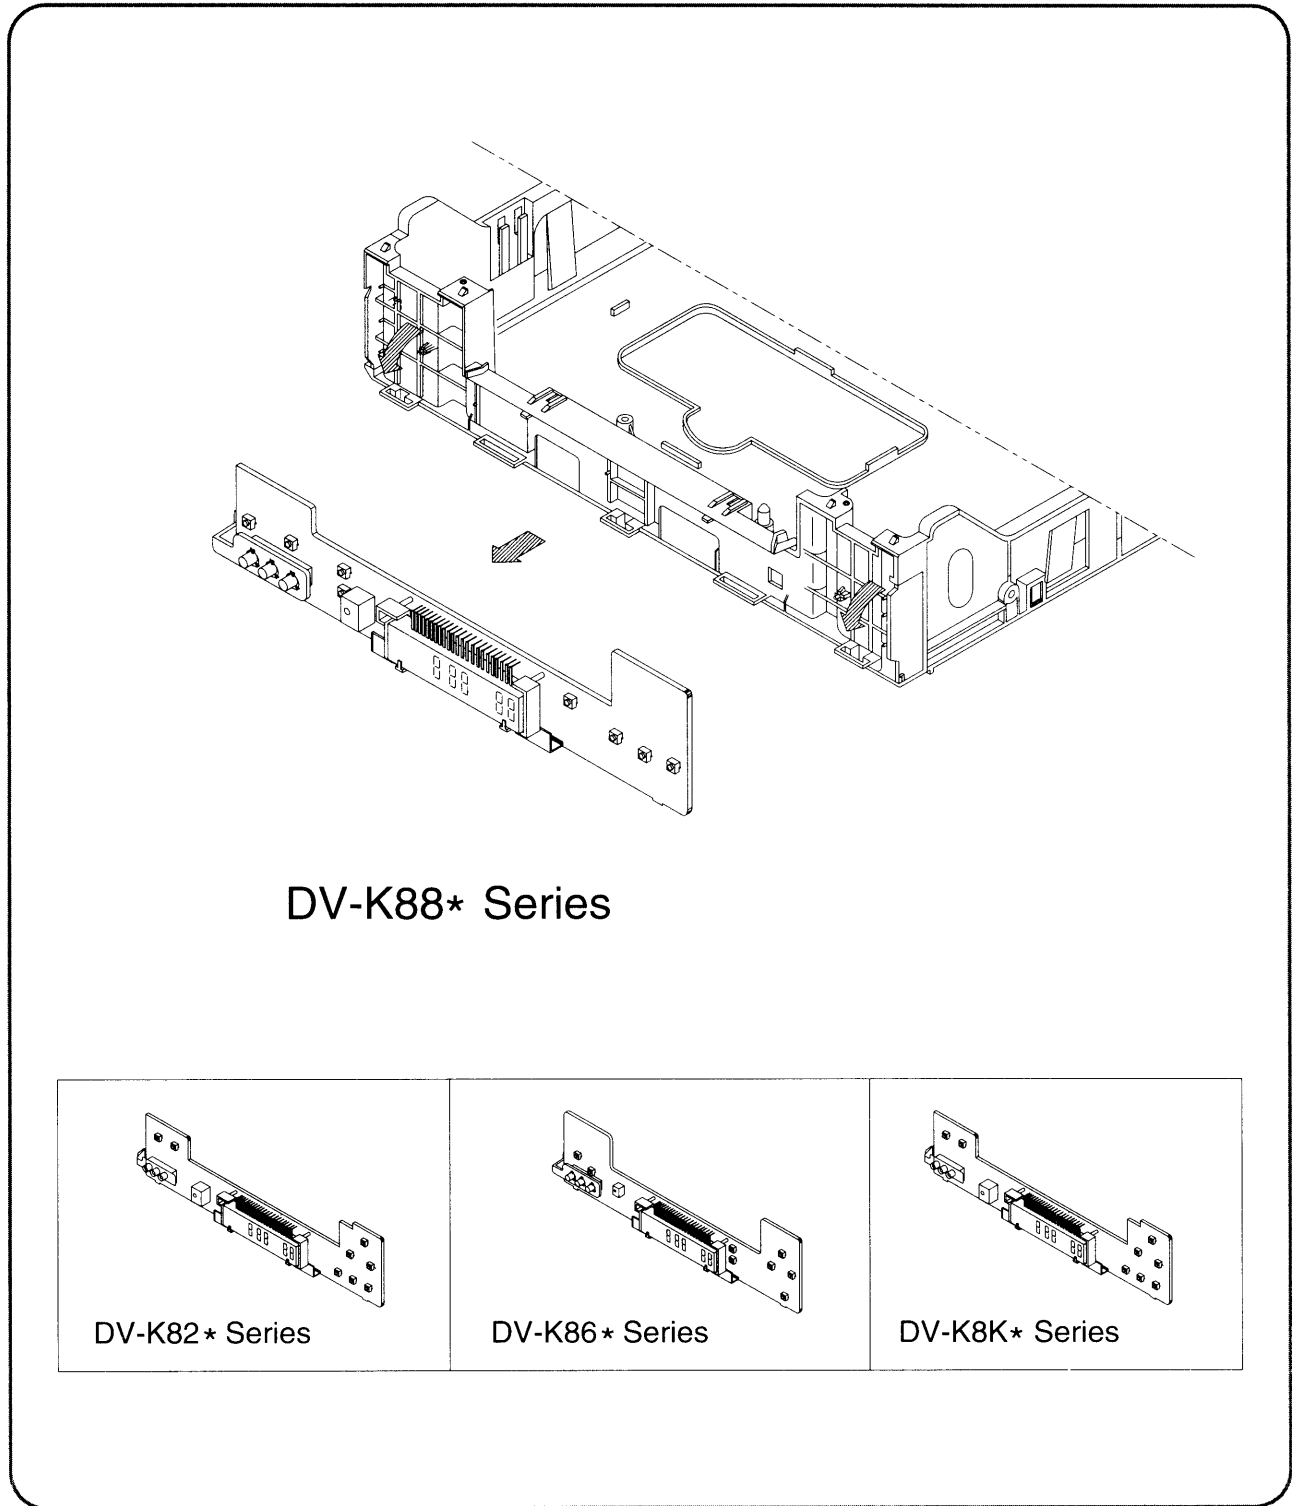

FIG. 5
5. PCB LOGIC AS REMOVAL (FIG. 5)